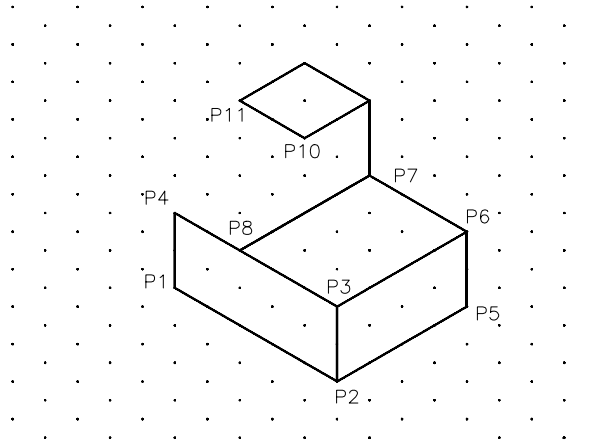

Figure 21-12 Drawing the remaining lines
5. Similarly, draw the remaining lines as shown in Figure 21-12.